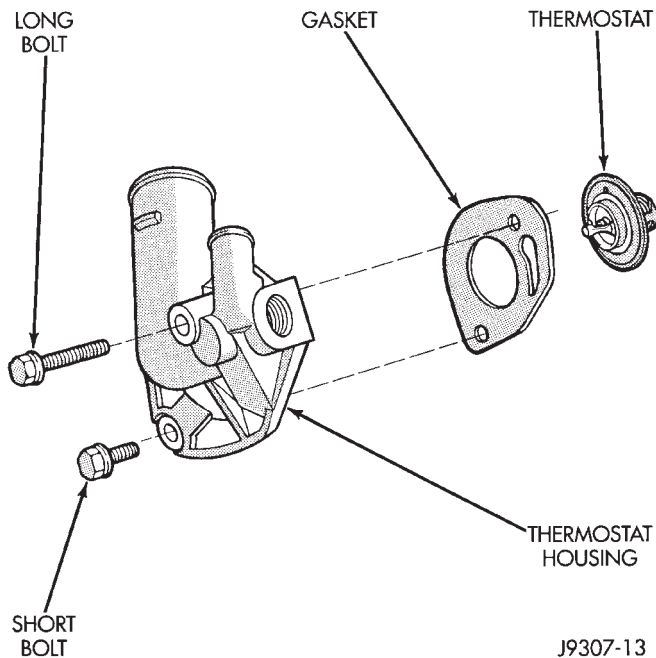

Fig. 25 Thermostat Removal/Installation—4.0L Engine
(4) Remove thermostat housing mounting bolts, thermostat housing, gasket and thermostat (Fig. 25). Discard old gasket.